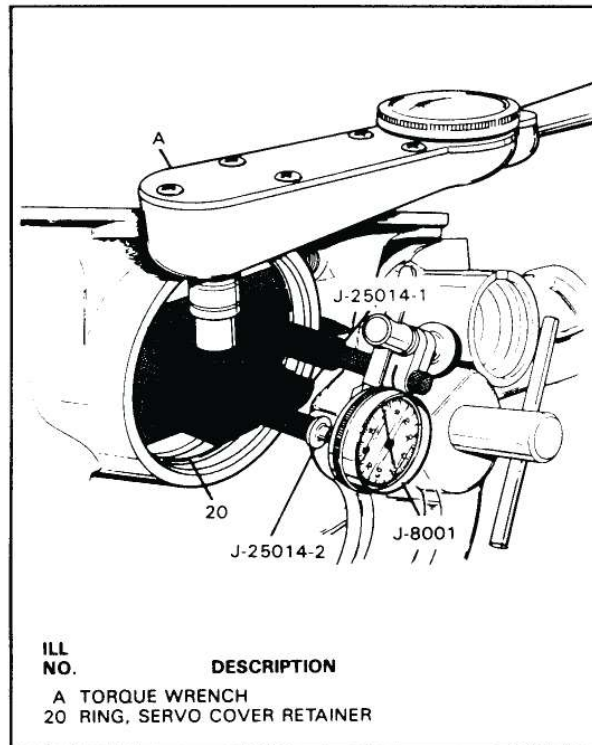

Figure 108
1. Install measuring tool J-25014-2 in intermediate servo bore, and retain with servo cover snap ring, as shown in Figure 108.
3. Install dial indicator on J-25014-2 zero post, as shown in Figure 108, and zero dial indicator.
4. Align stepped side of pin J-25014-1 with torquing arm of J-25014-2 (See Figure 108).